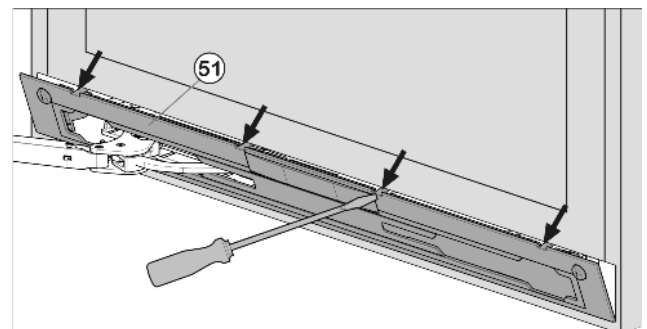

Fig. 15
► Release panel *Fig. 15 (51)* using slotted screwdriver and remove.